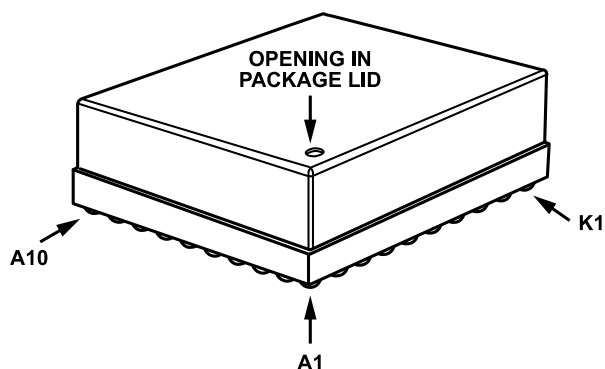

Figure 61. Pressure Relief Hole
- ▶ The hole in the top of the lid (see Figure 61) provides venting and pressure relief during the assembly process of the ADIS16501. This hole must be kept clear while attaching the ADIS16501 to a PCB. However, covering the hole in normal operation is not typically a problem.